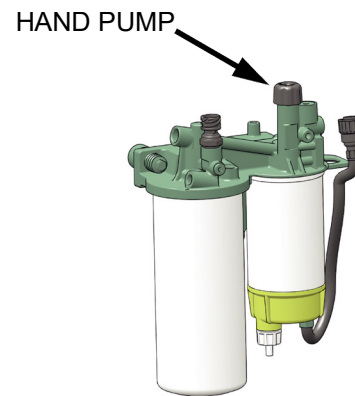

Figure 59. Bleeding The Fuel System
2. Release the **hand pump** (Figure 59) on the fuel bracket by pushing down and twisting the plastic handle.